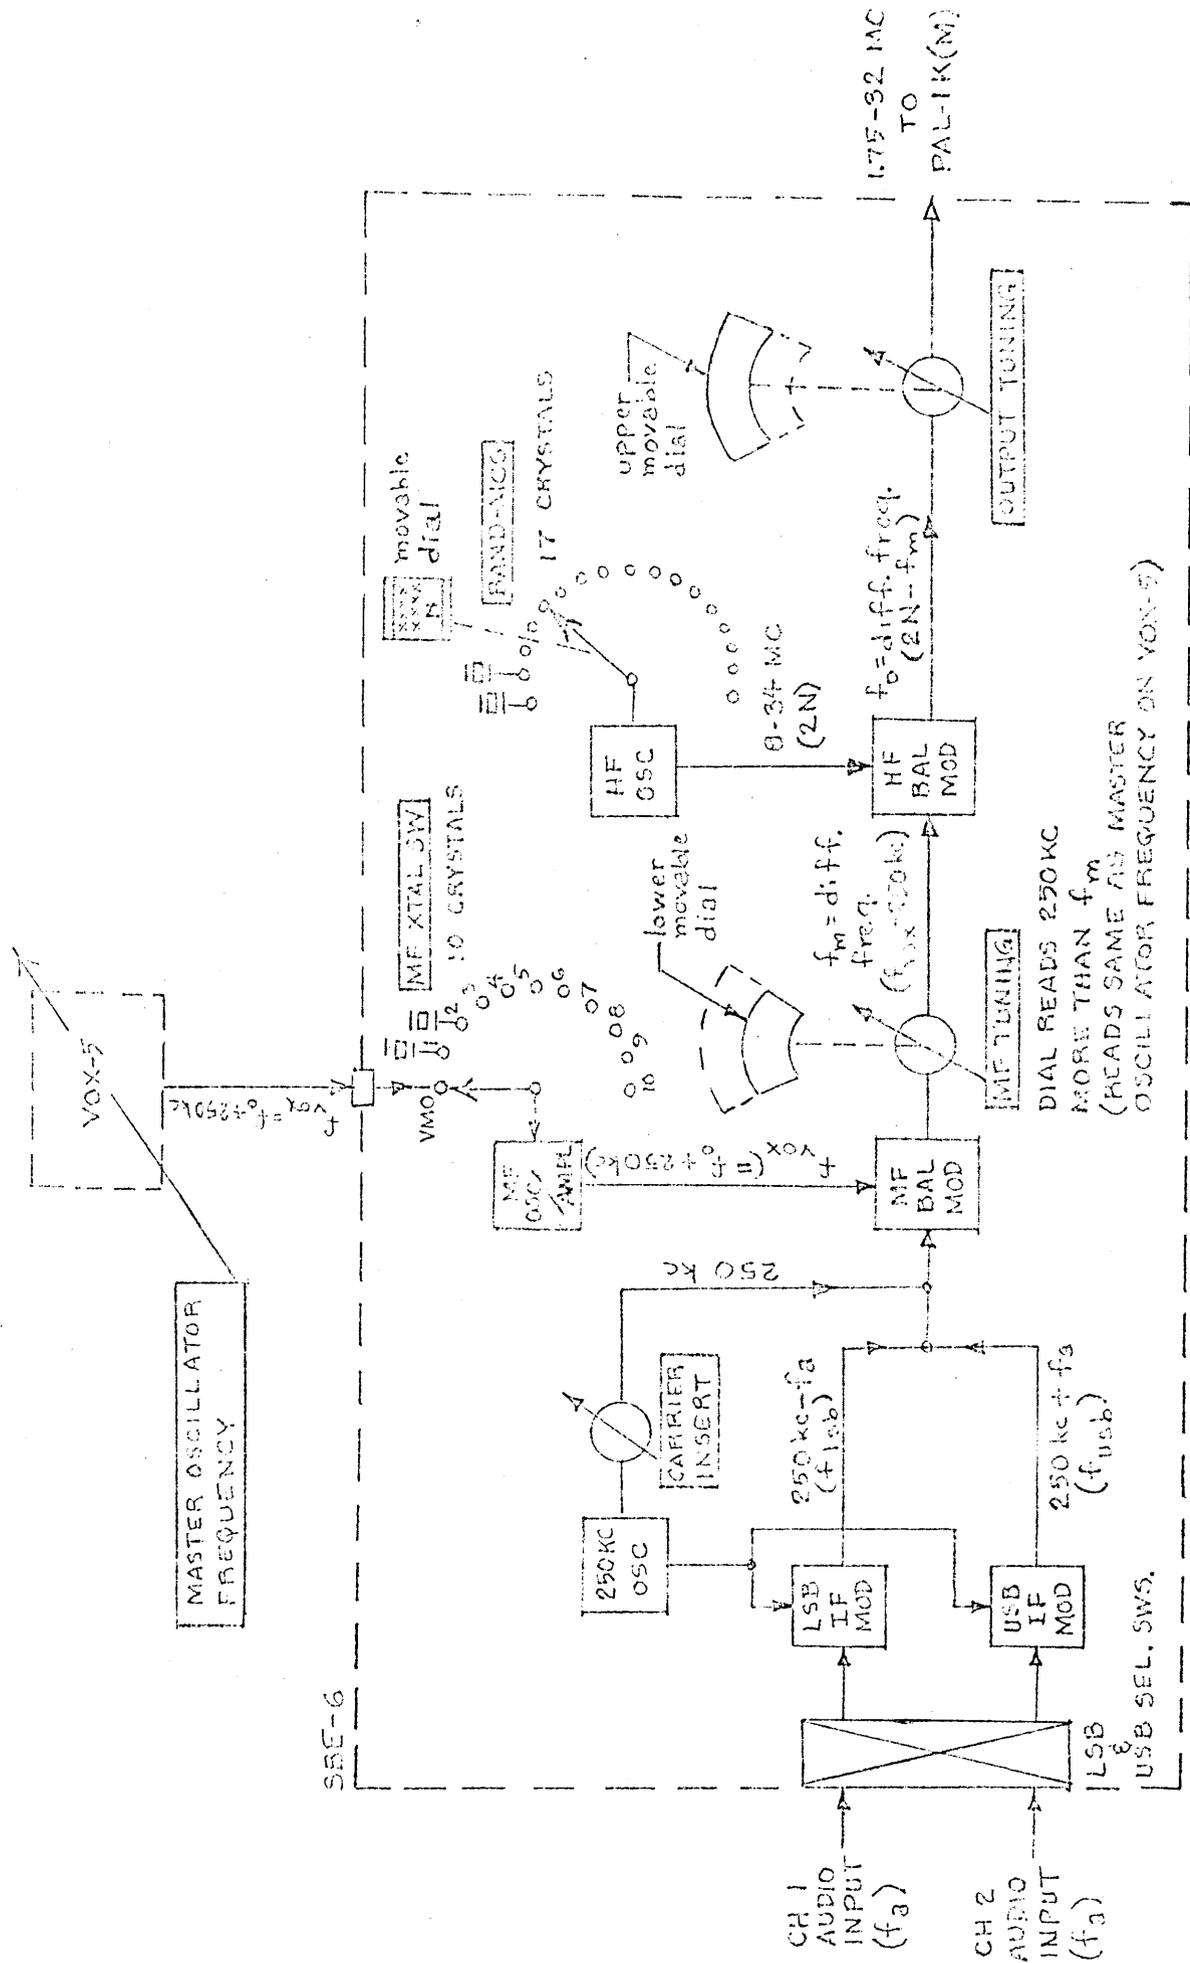

FIGURE 4-2. FREQUENCY TRANSLATION DIAGRAM, SBT-1K(V)
a. CARRIER FREQUENCY. - Figure 4-2 shows the origin of the carrier (250 kc oscillator in the SBE-6) and the successive modulation stages which bring it to the 1.75-32 mc range. When the carrier is to be between 4.25 and 32 mc, two stages of modulation are used: MF and HF. The 250-kc is mixed with the VOX-5 2-4 mc output in the MF Modulator to raise the carrier into the 2-4 mc stage. The difference frequency output of the MF Modulator is then mixed with the HF Oscillator output in the HF Modulator to produce a dif-
The carrier frequency translation may then be described in terms as follows (see figure 4-2): -
b. LOWER SIDEBAND FREQUENCIES. - As shown in figure 4-2, an audio tone, f_a , at SBE-6 audio input mixes with the 250-kc in the LSB IF Modulator to produce a lower sideband tone equal to 250-kc minus f_a . The LSB filter in the modulator output blocks out the 250-kc and passes only the lower sideband tone (f_{lsb}). The 250-kc component is further blocked off by turning the CARRIER INSERT knob to minimum and only f_{lsb} enters the MF Modulator, where it mixes with f_{vox} to produce $f_{\text{vox}} - (.250 - f_a)$ or $f_{\text{vox}} - .250 + f_a$ at the modulator output. The MF Modulator output then mixes with 2N
d. CARRIER RE-INSERTION (figure 4-2). - In sideband transmission, the 250-kc carrier originating frequency removed by the i-f modulators may be re-inserted by means of the SBE-6 CARRIER INSERT knob. The output carrier frequency (f_o) then evolves as described in paragraph 4-3a and is transmitted alongside the sideband in the frequency spectrum. The carrier remains a constant frequency and amplitude as set and the sideband frequency varies in frequency and amplitude as does the audio input frequency (f_a). The CARRIER INSERT control is turned up to full maximum in AM transmission.